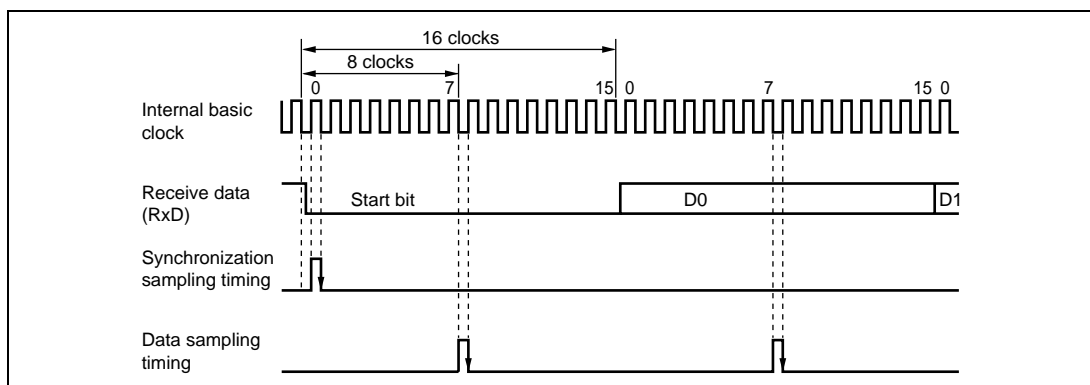

Figure 13-19 Receive Data Sampling Timing in Asynchronous Mode
In asynchronous mode, the SCI3 operates on a basic clock with a frequency of 16 times the transfer rate. In reception, the SCI3 samples the falling edge of the start bit using the basic clock, and performs internal synchronization. Receive data is latched internally at the rising edge of the 8th pulse of the basic clock as shown in figure 13-19. Thus, the reception margin in asynchronous mode is given by formula (1) below.